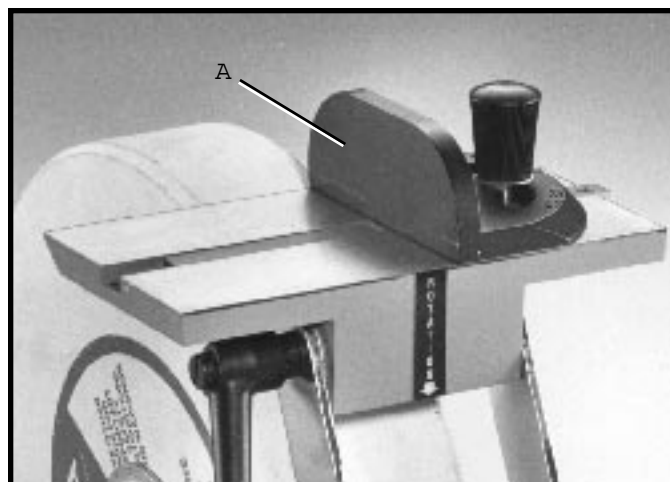

Fig. 10
A sliding angle jig (A) Fig. 10, is supplied for use on the tool rest for the 10 grinding wheel to facilitate accurate grinding of compound angles up to 45°, right or left.